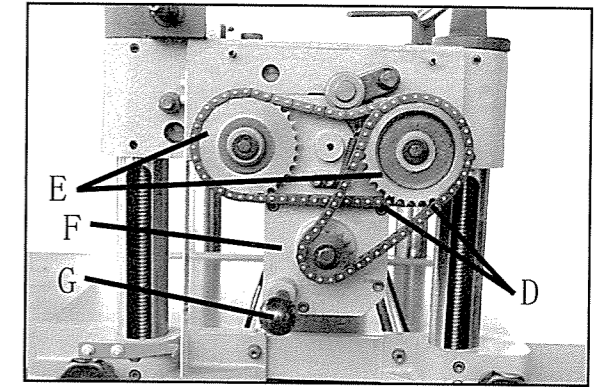
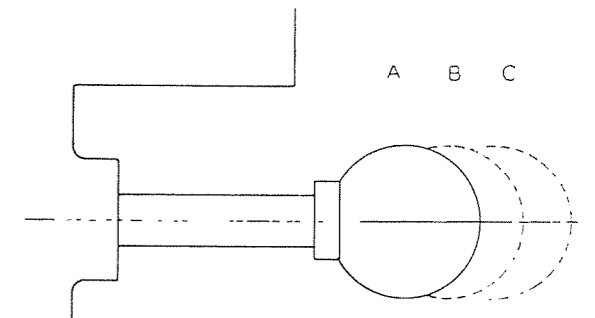

Fig. 28
Fig. 29
Your machine is equipped with a spiral, serrated infeed roller and a solid steel outfeed roller. When the feed rollers are engaged, they turn to feed the stock. The feed rollers slow automatically when the machine is under heavy load for best planing under all conditions. The feed rollers are driven by chains (D) Fig.28 and the sprockets (E), which takes power directly from the cutterhead through the oil bath gear box (F) Fig.28.
There are two feed speeds in the gear box by using the shift lever(G) Fig.28 to pull out or push in, and the feed speed range as shown in Fig.29.
Shift gears handle shown as Fig.29. There are three kinds of operations of gear box by using shaft handle to pull or push. In position A feed roll is operating on rate 30 FPM, shown as Fig.29. In position B feed roll is operating on rate 0. In the position C feed roll is operating on rate 16 FPM.